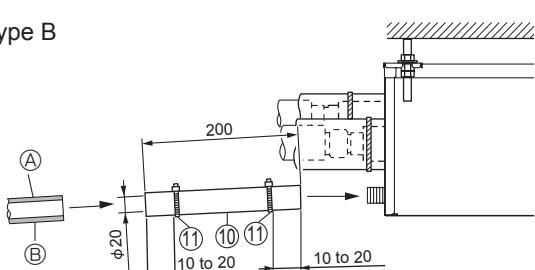

Fig. 8-1
- (1) Apply PVC adhesive (procure locally) to the drain connection on the branch box and push the attached drain hose ⑪ onto the connection as far as it will go. (Fig. 8-1)
- (2) Insert a hard PVC pipe (VP-16, procure locally) into the attached drain hose ⑪ and glue it together and fix it. (Fig. 8-1)
- ④ VP-16 procured locally
- ⑤ Thermal insulation
- (3) Fit a band ⑫ to the attached drain hose ⑪ (Fig. 8-1)